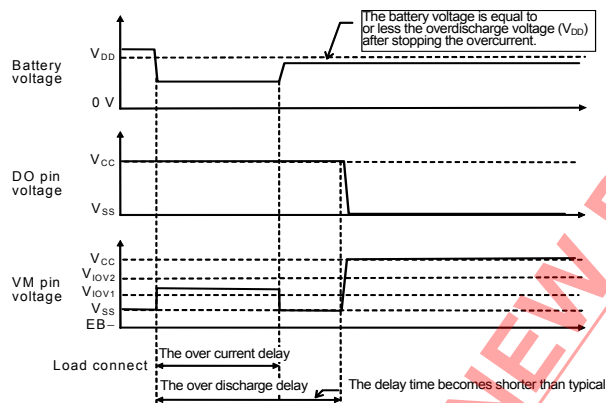

Figure 9
- After the overcurrent detection delay, if either one of battery voltages equals the overdischarge detection voltage ($V_{DD1,2}$) or lower, the overdischarge detection delay time becomes shorter than 10ms (min.). It occurs because capacitor C3 sets all of delay times (refer to the **Figure 9**).